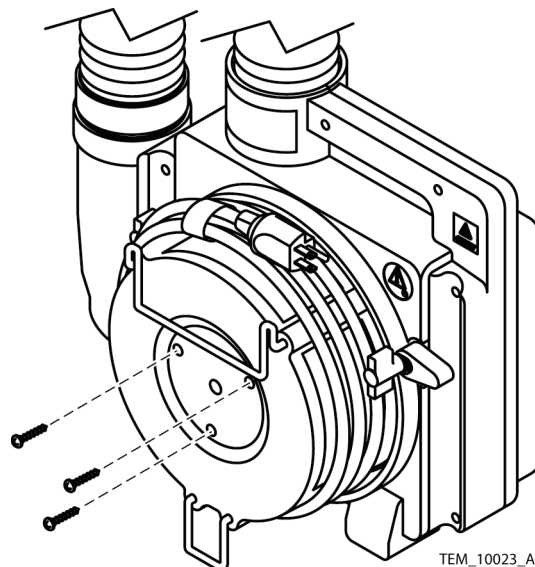

Figure 15. Filter Cover Screws
6. Remove the filter cover screws. See Figure 15.
8. Place the replacement filter cover assembly on the warming system and install the screws. Tighten the screws to 8 to 12 in/lbs (20 to 30 cm/kg). See Figure 15.